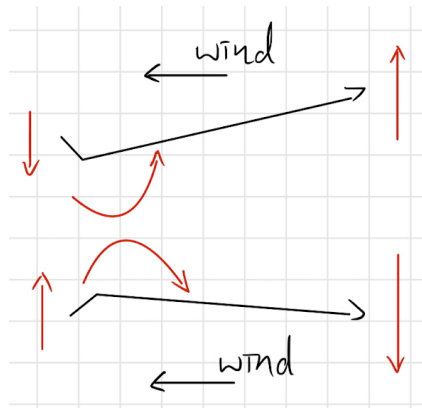

Figure 3: The relation between elevator positions and the aircraft pitch direction.
(1) **Elevator:** It is used to control the aircraft in the **pitch** axis. And the corresponding pitching direction of the aircraft relative to the elevator's position are shown in Figure 3.